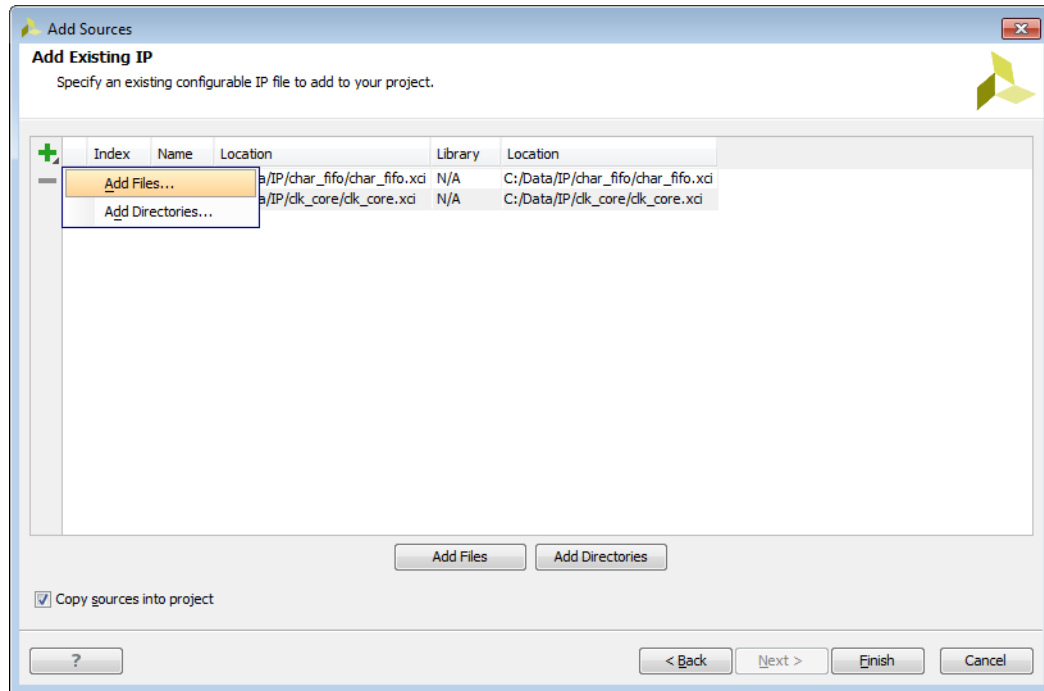

Figure 3-8: Add Sources Wizard—Add Existing IP Page
3. In the Add Existing IP page (Figure 3-8), set the following options, and click **Finish**.